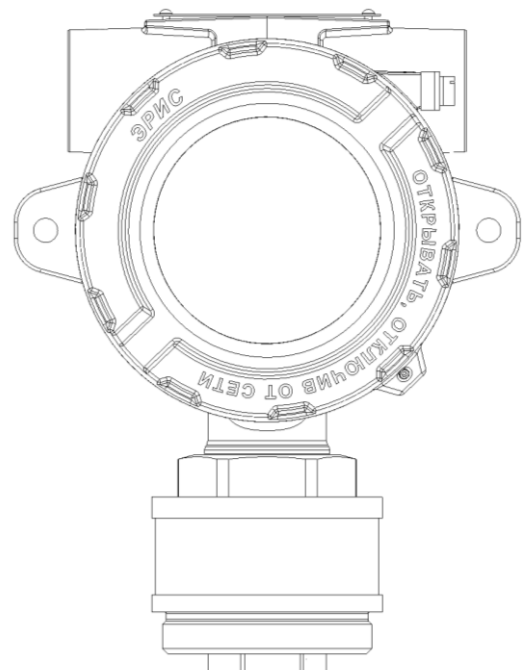

Figure 14 – Gas detector without moisture protection cap
- b) Remove the moisture protection cap from the gas detector (Figure 14);